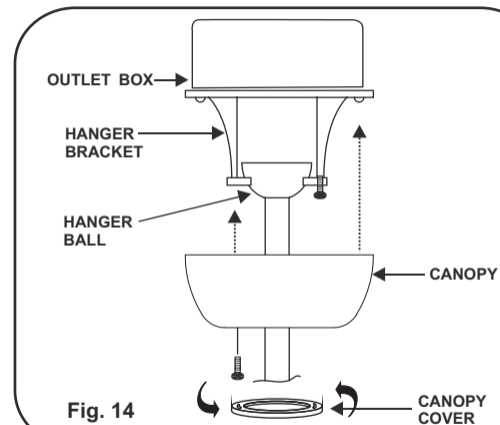

Fig. 14
Step 3. Align the canopy up to ceiling and over the loose screw. Place the canopy into key hole and rotate canopy clockwise. (Figure 14)
Step 5. Place the canopy cover to the canopy and rotate canopy cover clockwise until it is locked into right position. (Figure 14)